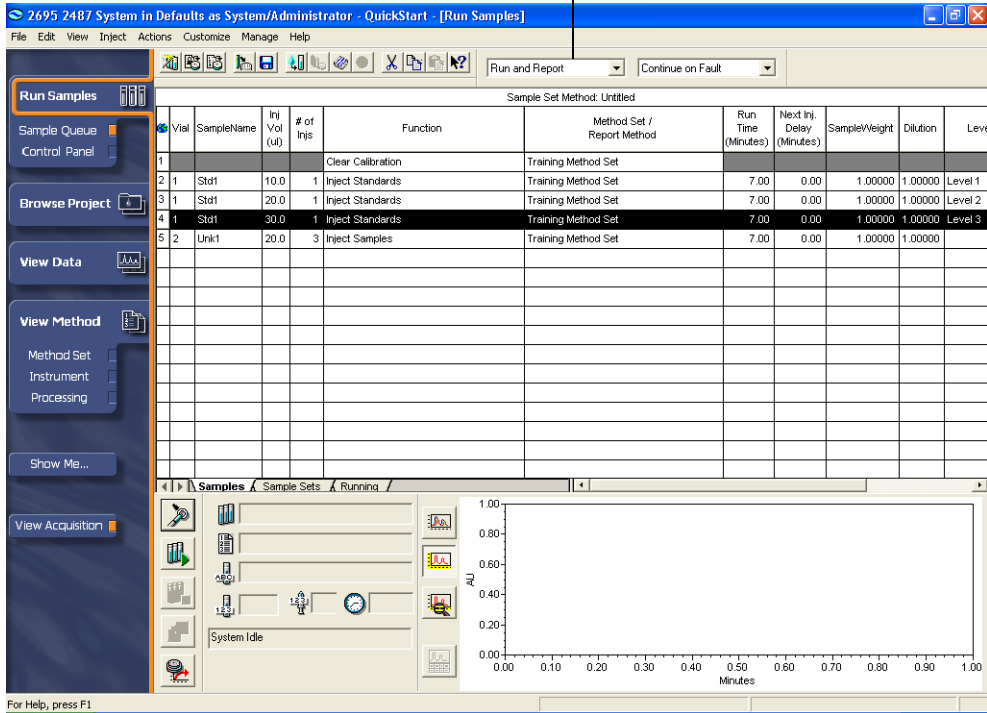

Figure 5-14 Run Samples After Entering Component Amounts
6. Click **OK**. The Samples table of Run Samples reappears (Figure 5-14).